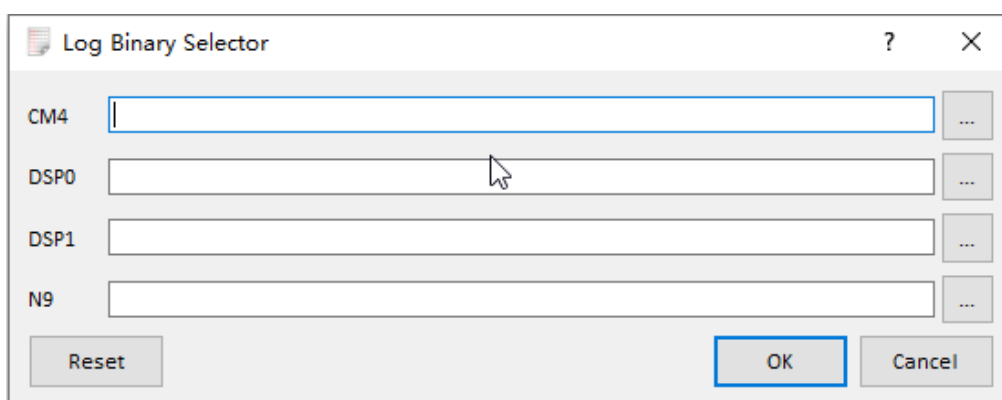

Figure 24. Selecting log binary
- 3) Select log binary file as shown in Figure 24